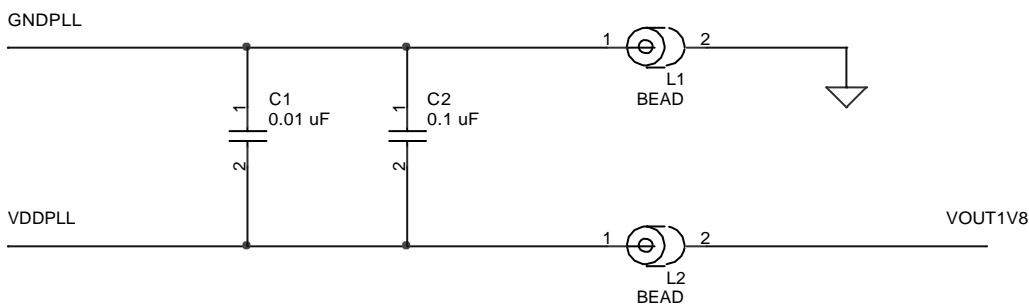

Figure 13. Connections for the PLL Pins
Connect the **VDDPLL** pin (25) to the **VOUT1V8** pin (27), with an associated chip ferrite bead, as shown in **Figure 13**. Connect the **GNDPLL** pin (26) to GND, with an associated chip ferrite bead. In addition, add stabilizing capacitors across the VDDPLL and GNDPLL pins. Place each capacitor directly adjacent to the PLL pins, on the top layer of the PCB.